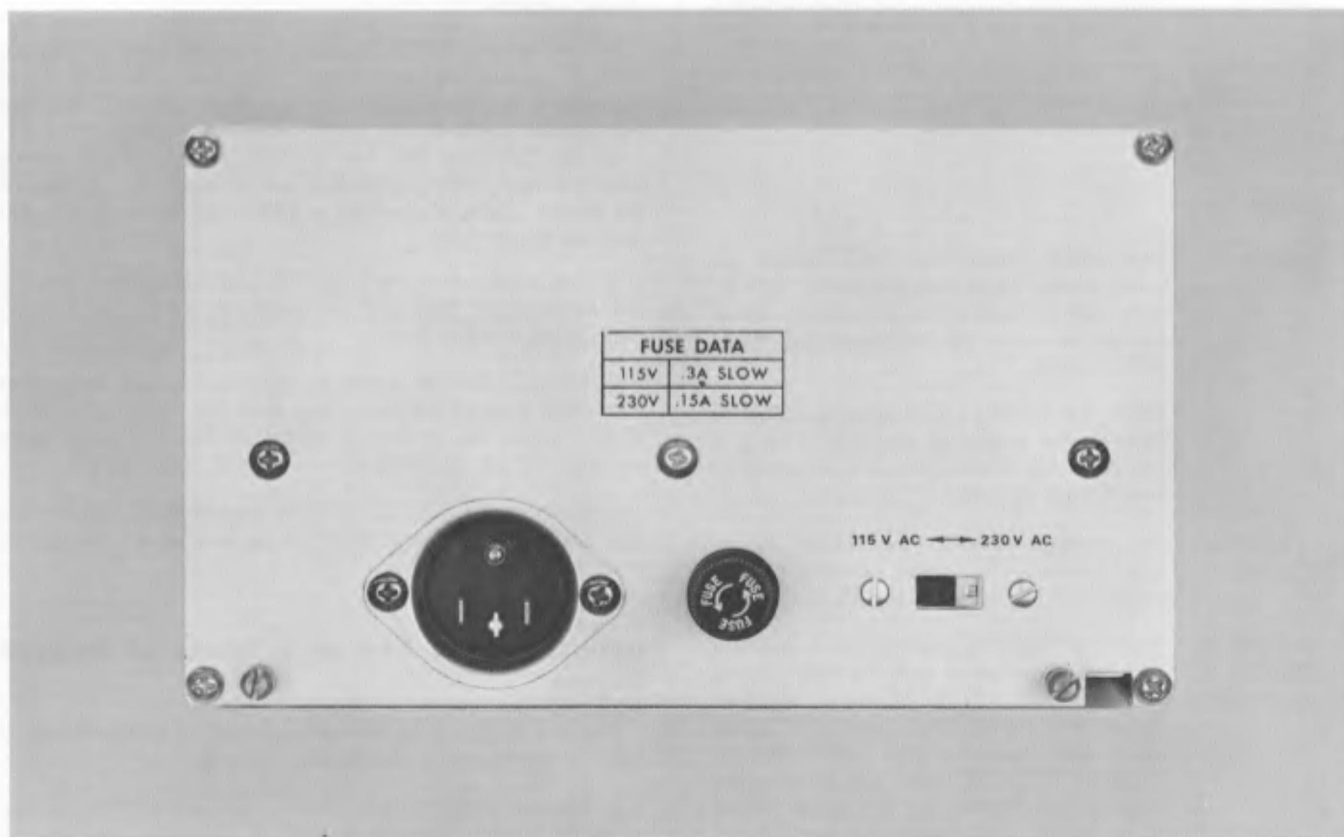

Fig. 2-2. Type 114 rear panel.
2. Connect the OUTPUT connector of the Type 114 to the vertical input of an oscilloscope (Tektronix Type 547/1A1 or equivalent) by means of a 50 Ω coaxial cable. Terminate the coaxial cable at the oscilloscope end with a 50 Ω termination (Tektronix Part No. 011-049 or equivalent). Make sure the input voltage switch is set to match the voltage of the power source in use (115 or 230 V ac). See Fig. 2-2. Attach the power cord.